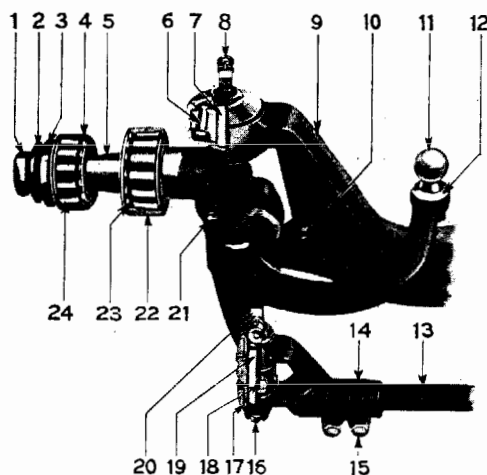

Fig 47
The front axle is of I-Beam section. The steering knuckle tie rod between the two steering knuckle yokes (14), Fig. 47 is at the rear of the axle, and is adjustable to properly align the front wheels to insure easy steering and prevent excessive tire wear. The steering knuckle bearings and all movable parts on the front axle, except the wheel bearings, are lubricated by the pressure gun. To adjust the steering knuckle bearing (6) Fig. 47, jack up both front wheels and remove the draw key (21). Then remove the cotter pin from the nut at the lower end of the spindle (7). Tighten up on the adjusting nut on lower end of spindle (7), from which cotter pin has just been removed, until the lost motion in the bearing disappears, but still allows the knuckle to move freely. Replace the draw key and then turn back the adjusting nut as much as necessary to insert the cotter pin. Replace and clinch the pin. Care should be taken not to get the bearing too tight. In case this happens it will be necessary to remove the draw key, loosen the adjusting nut and then by driving on the knuckle, force down the bushing which is in lower arm of the axle fork and in which the spindle (7) has a bearing. Then make the adjustment correctly as stated above.